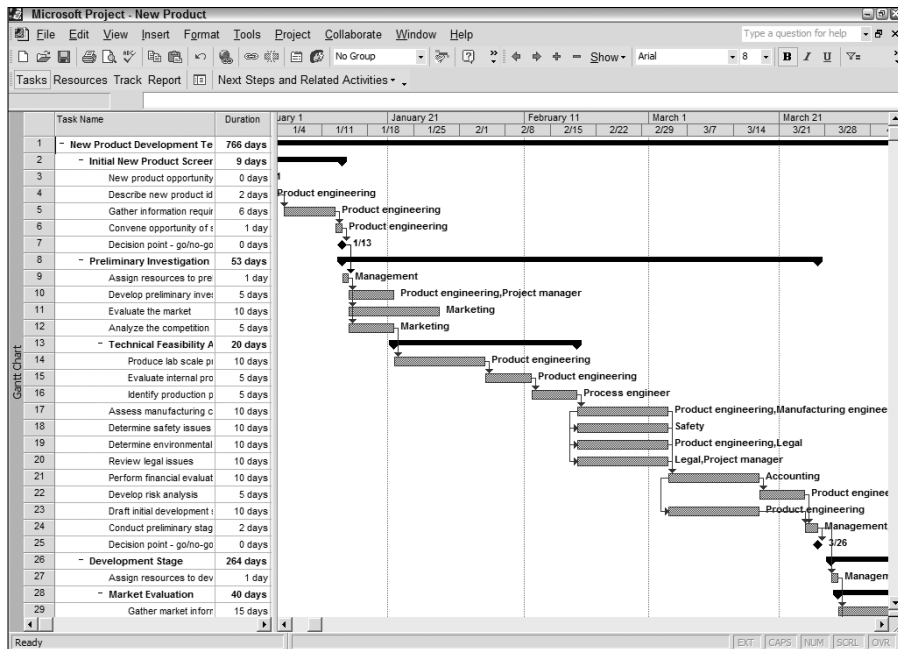

Figure 12-2:
- ✔ **Scheduler:** Project schedulers are like process mappers for projects. They enable you to capture all planned work tasks, resources, costs, and risks and place them in a scheduling format according to a formal organization of work. Numerous project management software tools are on the market; tools specifically designed to support Six Sigma projects include Instantis and SixNet. These are powerful, and they perform project scheduling for Six Sigma-specific projects from an Internet-based architecture. There are many others; the most commonly used generic project scheduling tool is Microsoft Project. Refer to Figure 12-2 for an example of a project schedule.